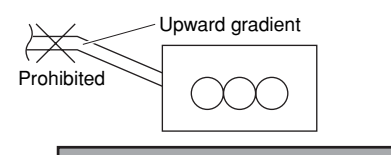

Fig. 3-72
- Do not install the pipe with an upward gradient from the connection port. This will cause the drain water to flow backward and leak when the unit is not operating. (Fig. 3-72)